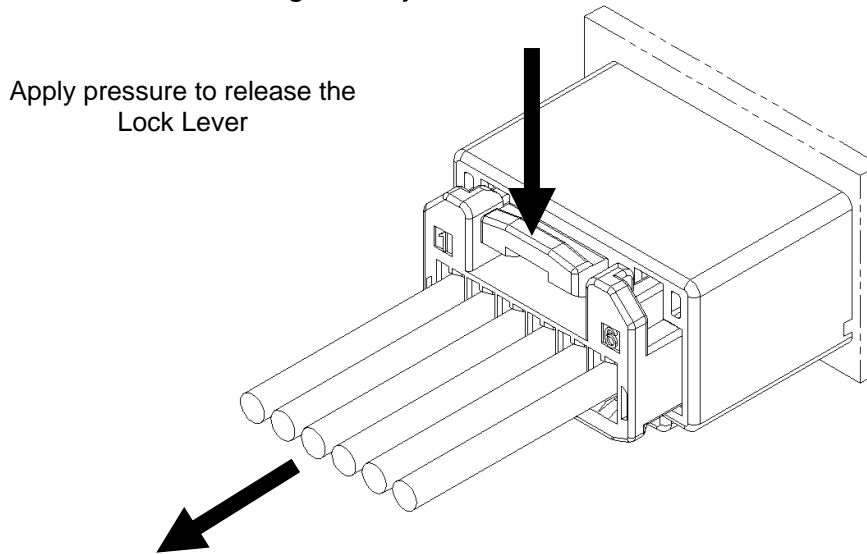

Figure 28. Disengaging the Female Housing Assembly from the Male Assembly (e.g. 6 positions)
- b) To release the locking mechanism, push down on the female housing assembly's lock lever to disengage the female housing assembly. See Figure 28.